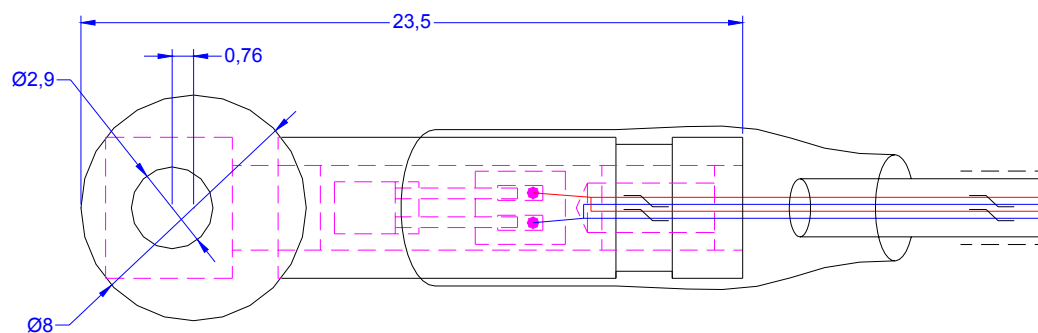

Figure 2 - Top view of mount including schematic view of EMI/Strain Relief Braid
- A length of braid is used to complete the EMI shielding of the lead wires and to provide strain relief on the STQ conductors. (See Figure 2) An extra length of heat shrink may be advantageous to assist in the strain relief.